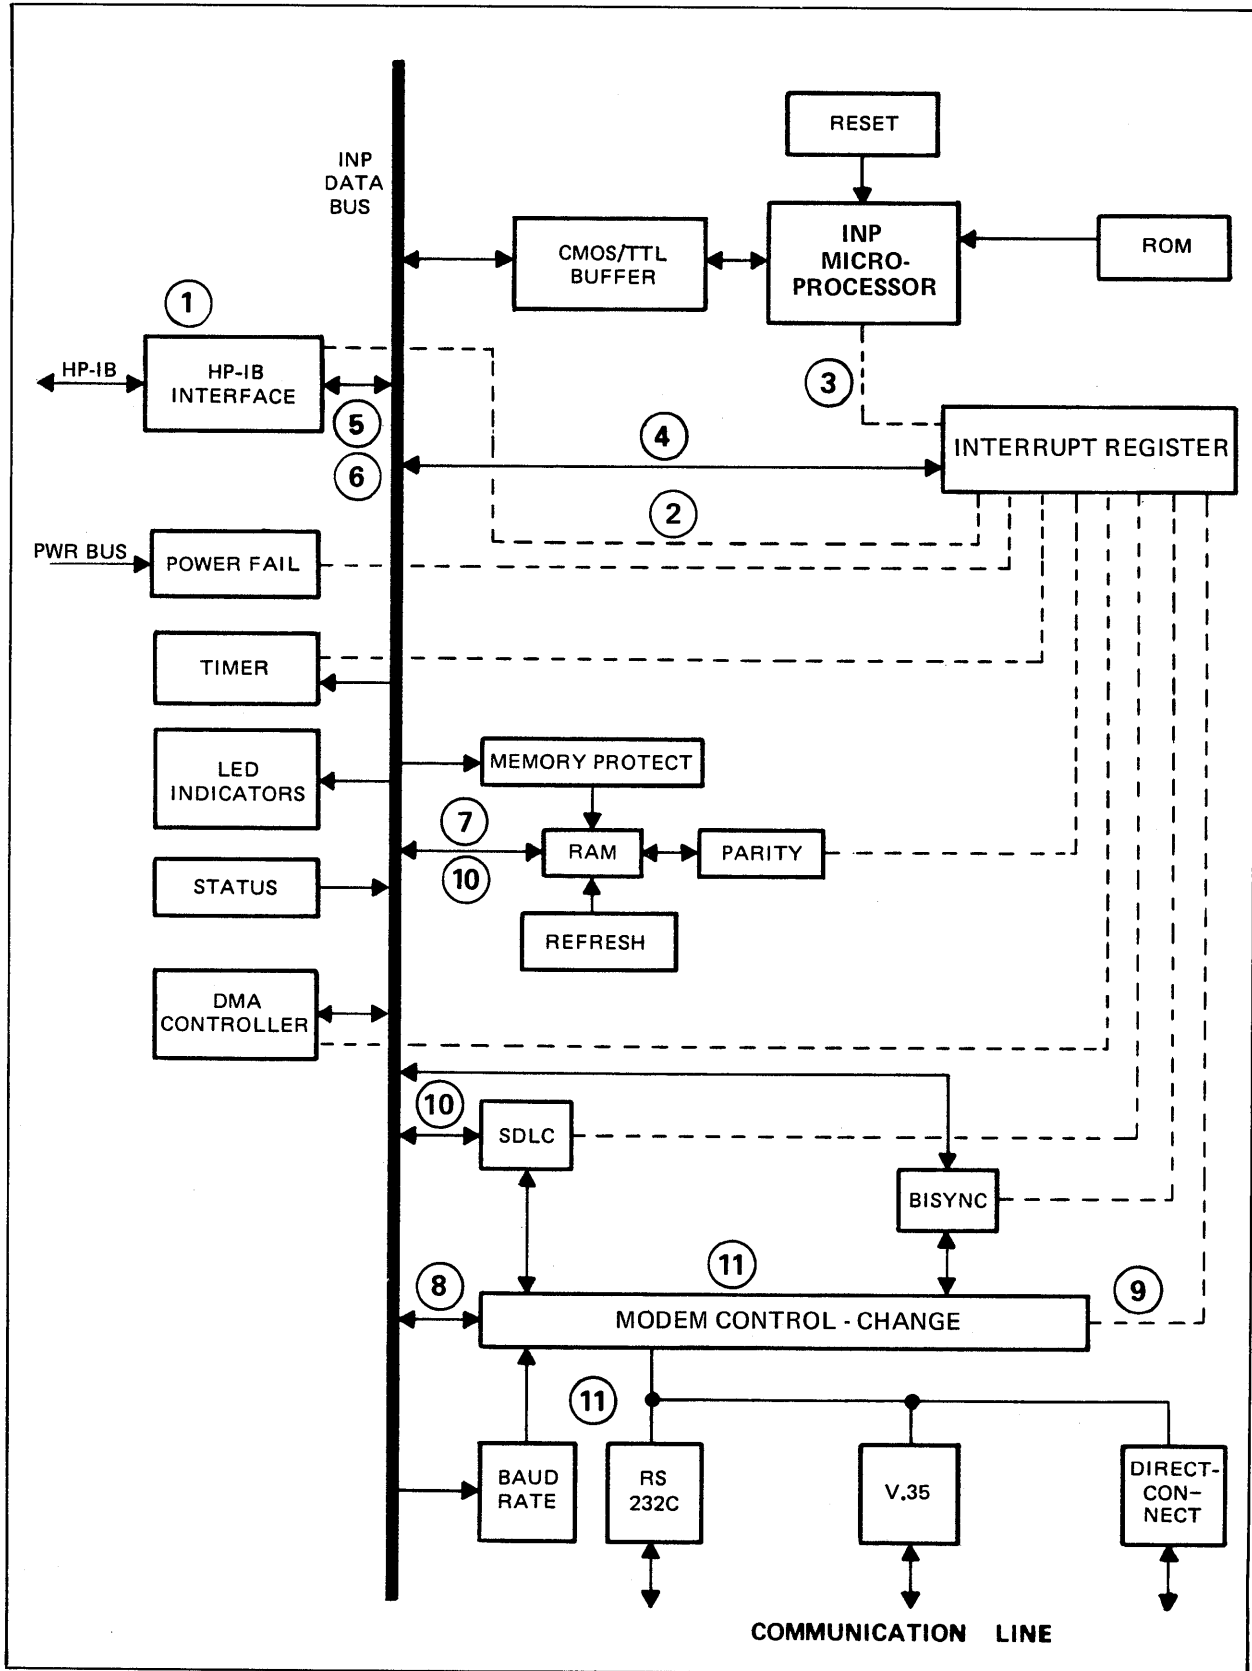

Figure 4-1. HP 30020A INP Block Diagram
A block diagram of INP organization of the major functional areas is shown in figure 4-1. The solid interconnecting lines in the block diagram represent data paths while the broken lines indicate service request paths.
In the following typical message transmission sequence, a modem telephone line is assumed as the communications medium. References are made to the functional areas, data paths, and service request paths within the block diagram in figure 4-1. The data paths and service request paths being referenced are identified in the diagram by circled numbers.
The flows from the HP 3000 into memory are represented by (6) and (7) in figure 4-1. Upon receiving a full block, the INP Microprocessor raises RTS, (8), and sets up an interrupt for when the modem returns CTS. When CTS becomes active, an interrupt is generated to the INP Microprocessor, (9). The INP Microprocessor then sends data from the INP RAM to the datacomm